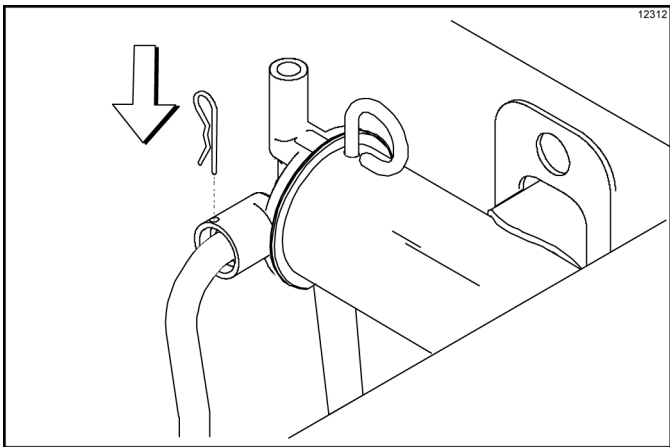

Figure 6-39
2. When mix stops bubbling down into the freezing cylinder, remove the cotter pin from the outlet fitting of the mix pump. Remove the mix feed tube. Insert the outlet end of the mix feed tube into the mix inlet hole in the mix hopper. Place the inlet end of the mix feed tube into the outlet fitting of the mix pump. Secure with the cotter pin. (See Figure 6-39.)